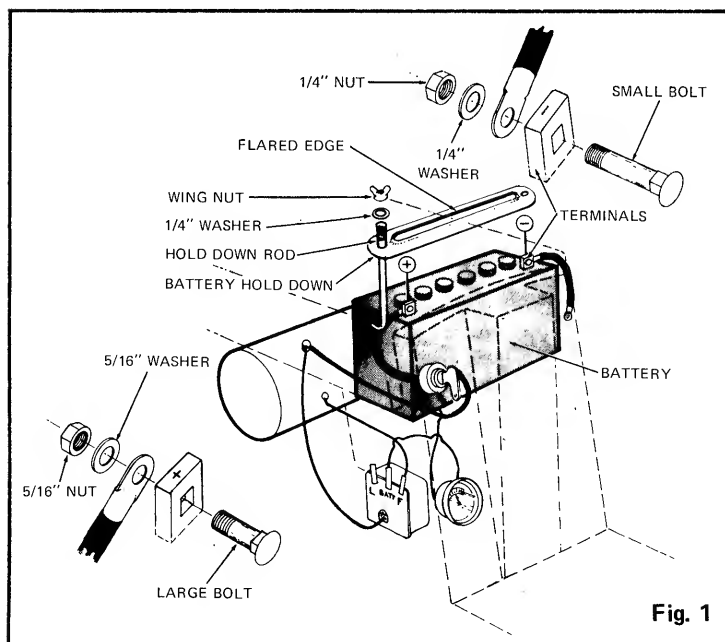

Fig. 1
4. Attach the negative terminal to the battery post with the 1/4" bolt, washer and nut as illustrated in Figure 1.
5. Attach the positive terminal to the battery post with the 5/16" bolt, washer and nut as illustrated in Figure 1.